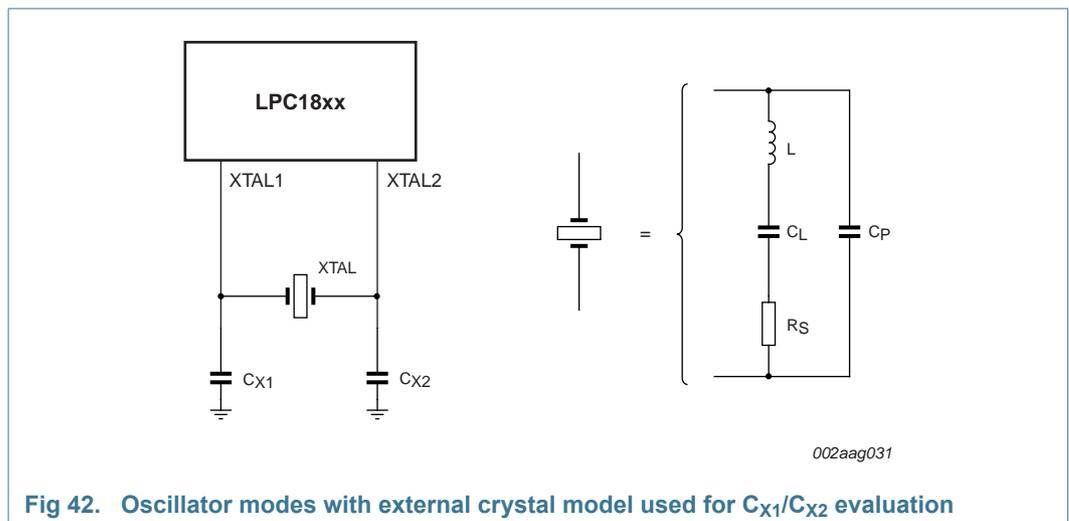

Fig 42. Oscillator modes with external crystal model used for  $C_{X1}/C_{X2}$  evaluation
- External components and models used in oscillation mode are shown in Figure 42, and in Table 42 and Table 43. Since the feedback resistance is integrated on chip, only a crystal and the capacitances  $C_{X1}$  and  $C_{X2}$  need to be connected externally in case of fundamental mode oscillation ( $L$ ,  $C_L$  and  $R_s$  represent the fundamental frequency). Capacitance  $C_P$  in Figure 42 represents the parallel package capacitance and must not be larger than 7 pF. Parameters  $F_C$ ,  $C_L$ ,  $R_s$  and  $C_P$  are supplied by the crystal manufacturer.